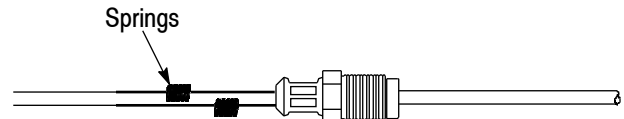

Figure 5
6. Place the crimp sleeve in the 8.6-mm hex nest of the hand tool, and crimp the crimp sleeve onto the crimp support. Make sure to center the front (portion between the hex nut and cable fibers) of the crimp sleeve in the hex nest. Refer to Figure 5, Detail A.
7. Using the micrometer or caliper, measure the crimp sleeve across the flats of the hex crimp to make sure that it conforms to the crimp height shown in Figure 5, Detail B. If necessary, crimp again, and re-measure the crimp.
8. Inject the instant adhesive into the opening at the front of the crimp sleeve to encapsulate the cable fibers and strength members. See Figure 5, Detail C. Remove any excess adhesive from the outside of the crimp sleeve.
9. Mark each fiber at the dimension shown in Figure 5, Detail D, and using the fiber stripping tool, strip each buffer to the mark, exposing the bare fiber. Using a lint-free tissue or cloth dampened with the isopropyl alcohol or acetone, clean the bare fibers.
10. Slide a spring onto each fiber. See Figure 5, Detail E.